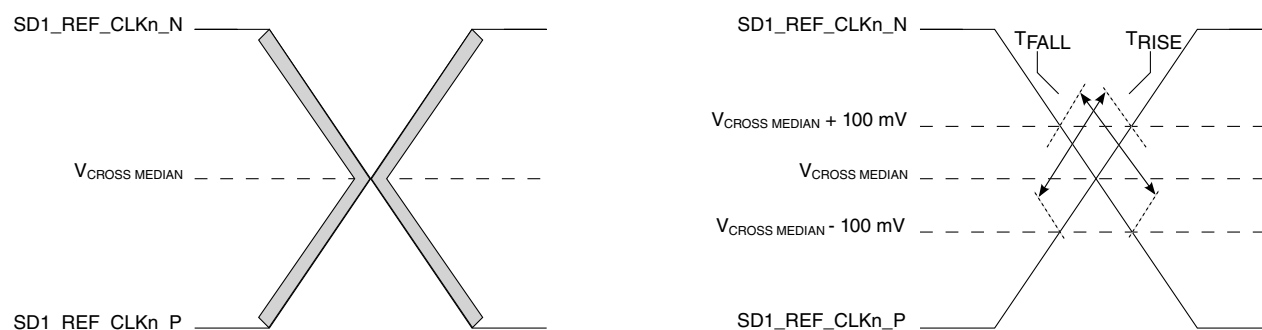

Figure 80. Single-ended measurement points for rise and fall time matching
- Matching applies to rising edge for SD1_REF_CLK n _P and falling edge rate for SD1_REF_CLK n _N. It is measured using a 200 mV window centered on the median cross point where SD1_REF_CLK n _P rising meets SD1_REF_CLK n _N falling. The median cross point is used to calculate the voltage thresholds that the oscilloscope uses for the edge rate calculations. The rise edge rate of SD1_REF_CLK n _P must be compared to the fall edge rate of SD1_REF_CLK n _N, the maximum allowed difference should not exceed 20% of the slowest edge rate. See Figure 80.